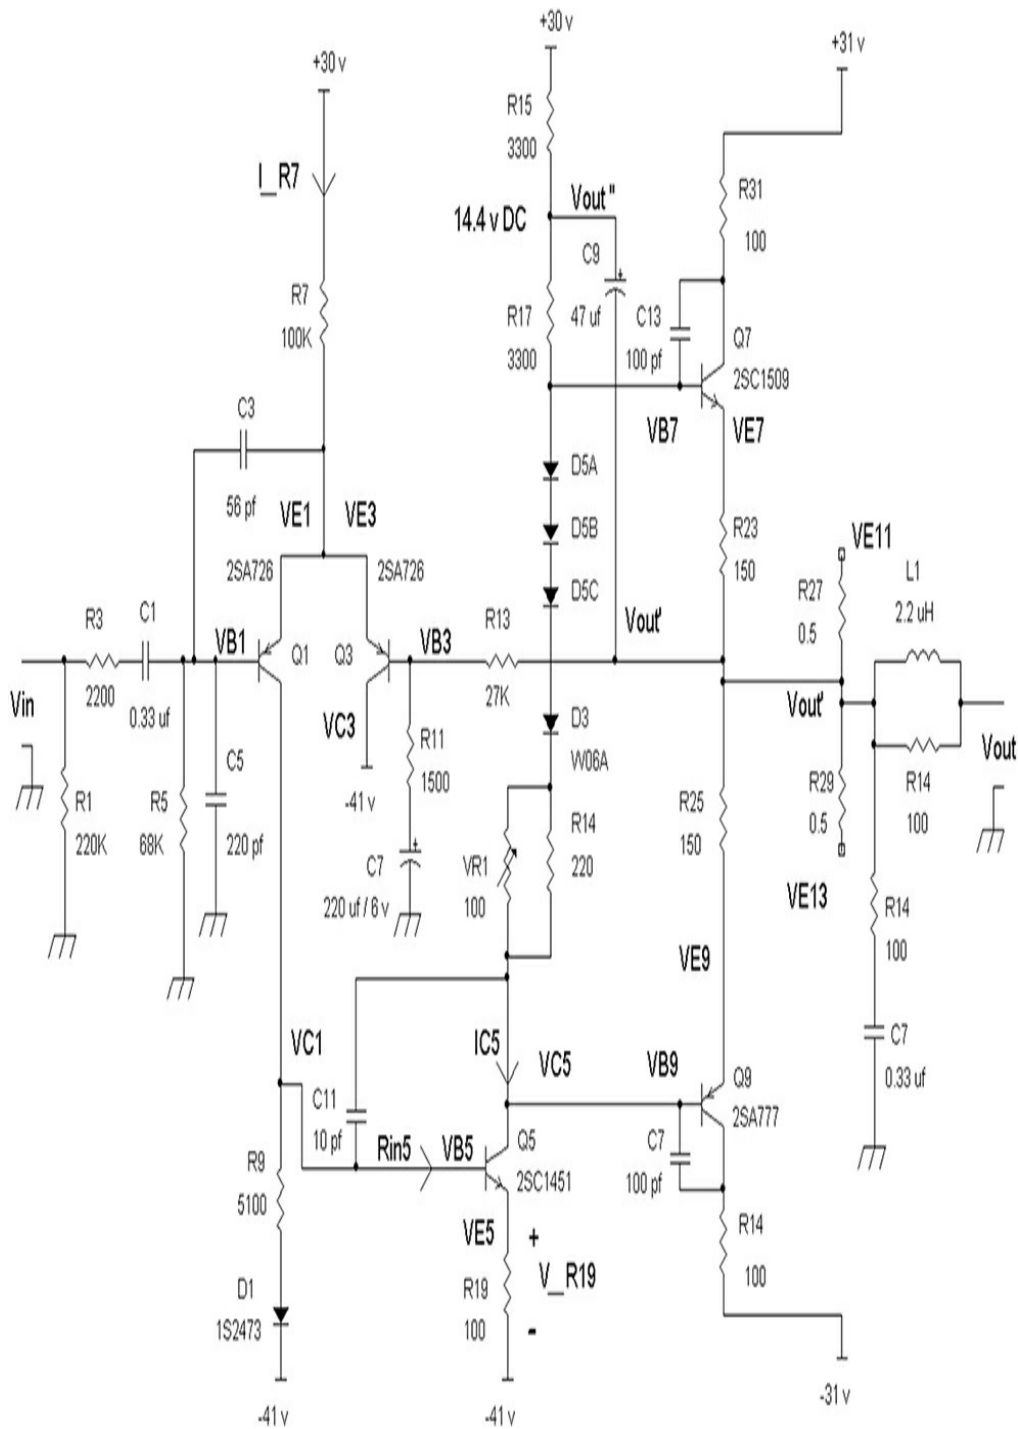

FIGURE 10.10 Schematic with output transistors removed, and driver transistors Q7 and Q9 to V_{out} .
1. With the power turned off, check the resistances from collector to emitter of the output transistors Q11 and Q13. You will need to measure the collector-to-emitter resistances a second time with the probe leads reversed. Typically, if the resistances are $> 10\Omega$, the transistors are fine. But if the collector-to-emitter resistances fall in the 2Ω or less category, chances are that there is a shorted transistor. If you find any one of the output transistors shorted, remove both output transistors Q11 and Q13. See Figure 10-10.